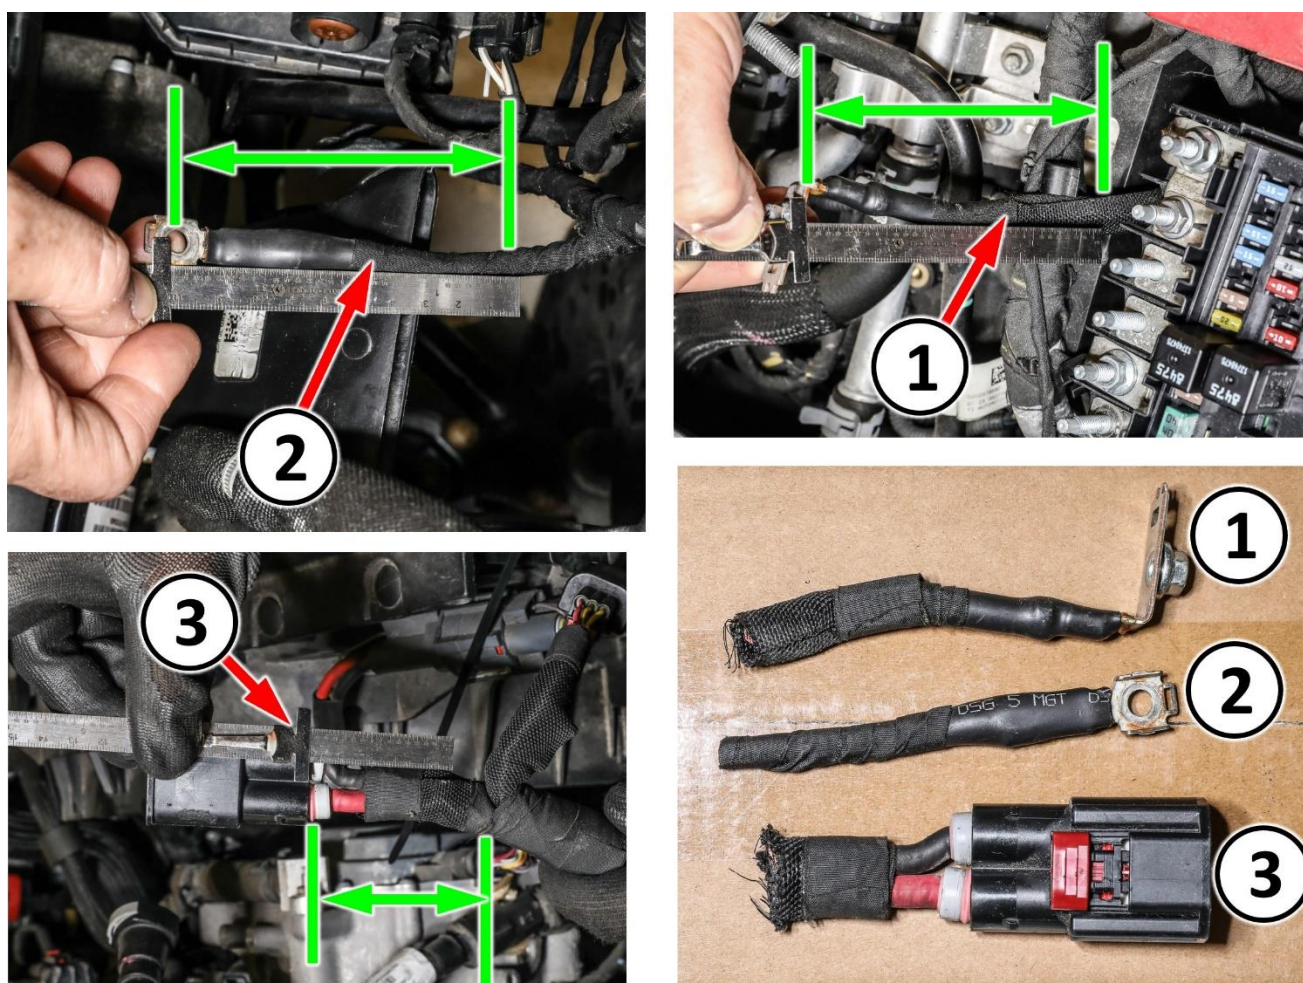

Figure A12 – Remove EHPS Wire Harness Terminals
37. After verification, cut EHPS power supply eyelet D6630J approximately 4 inches behind eyelet 90-degree bend and set aside for return for analysis (Figure A12).
38. After verification, cut ground eyelet G908A approximately 4 inches behind center of eyelet hole and set aside for return for analysis (Figure A12).
39. Cut 2way EHPS connector D2704A approximately 2 inches behind connector body taking special care not to cut through 3way connector D2704B circuits. Set aside for return for analysis (Figure A12).